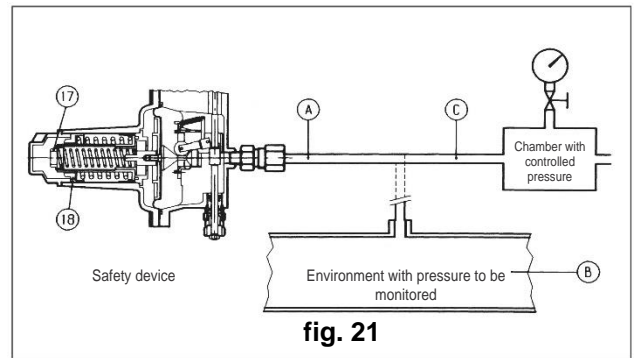

fig. 21
- B) For devices without the "push" valve (fig. 21), it is advisable to connect the control head separately to a controlled auxiliary pressure and repeat the steps described above.